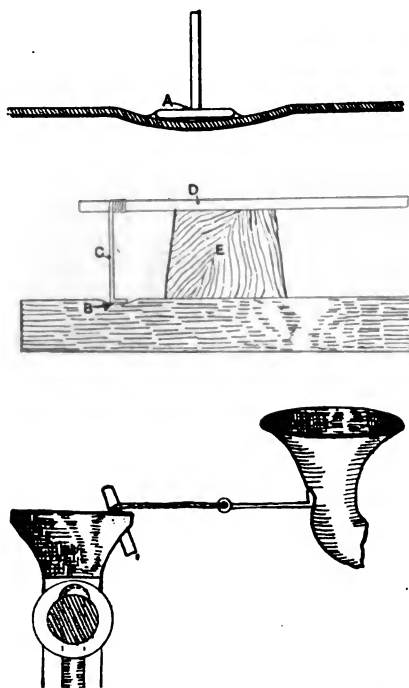

FIG. 1.—HOW DENTS ARE REMOVED
If the tank of a radiator or similar square object is indented, a loop should be made in a piece of stout brass or bright steel wire, bent at right angles, as at A in Fig. 1. and soldered to the lowest part of the dent. A larger loop should then be made in the other end of the wire, and with the aid of a lever (D) and a block of wood (E) resting on the
Dents in head lamps and other small articles can be taken out in a similar manner as above, though in place of the lever a strong cord should be attached to the wire loop and its free end fastened to a vise or any convenient anchorage. In Fig. 1 (P. 155), a horn is shown under treatment. The horn is grasped in the hands, and a few gentle jerks will remove the dent. The wire loop in both these cases can easily be re-